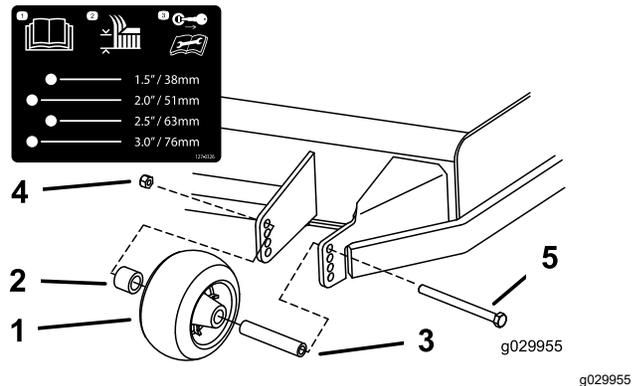

Figure 31
3. Adjust the anti-scalp rollers as shown in Figure 31, Figure 32, and Figure 33.